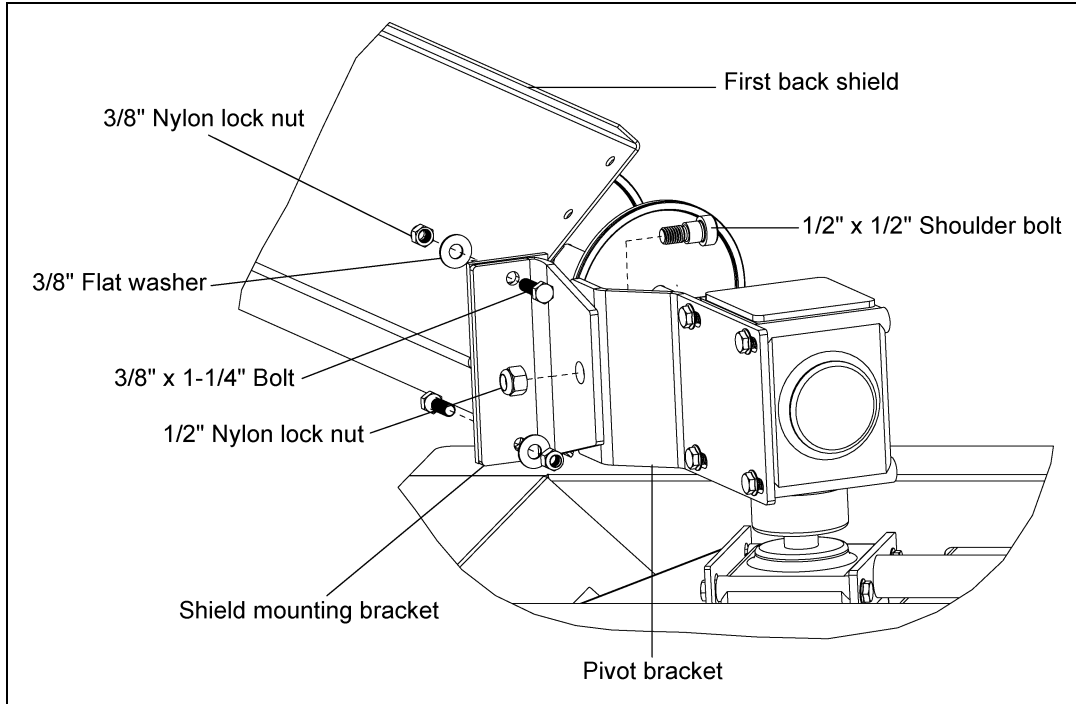

Figure 4AF
3. Install the first and second flighting shield (when applicable) to the hanger bracket using two (2) 3/8" x 3" carriage bolts, flat washers and lock nuts. (See Figure 4AG.)